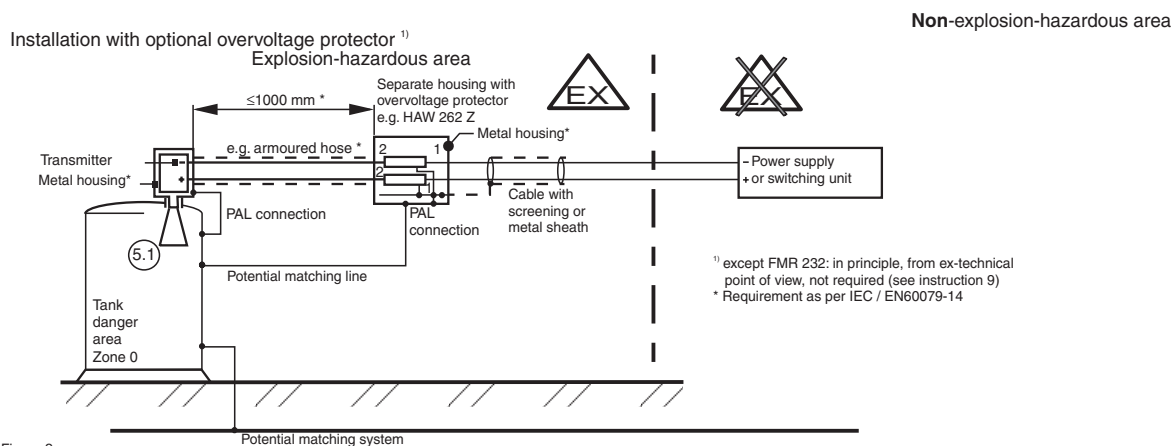

Figure 2
- 6.2 Option: overvoltage protector HAW 262 Z, see figure 2.